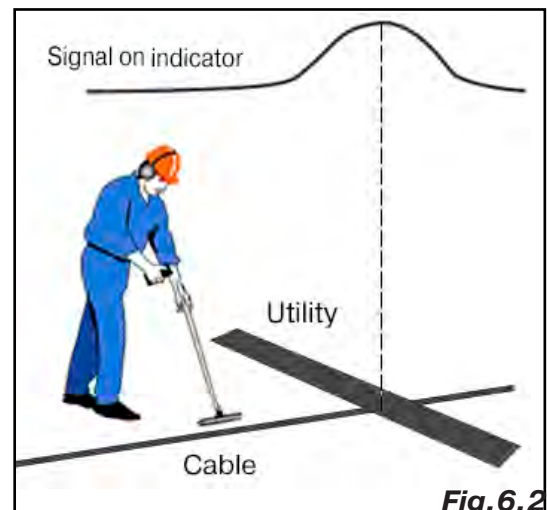

**Fig.6.1**
2. Fix the sensor antenna at a 45° angle to the ground surface, minimum of the signal is observed at a distance from the point «above the route», equal to the depth of the utilities, when the antenna axis intersects the axis of the route. This is the indirect method of measuring the depth of utility (**fig. 6.1**)